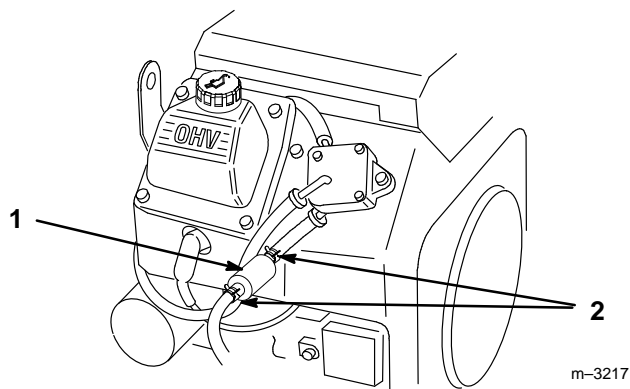

Figure 35
3. Squeeze the ends of the hose clamps together and slide them away from the filter (Fig. 35).